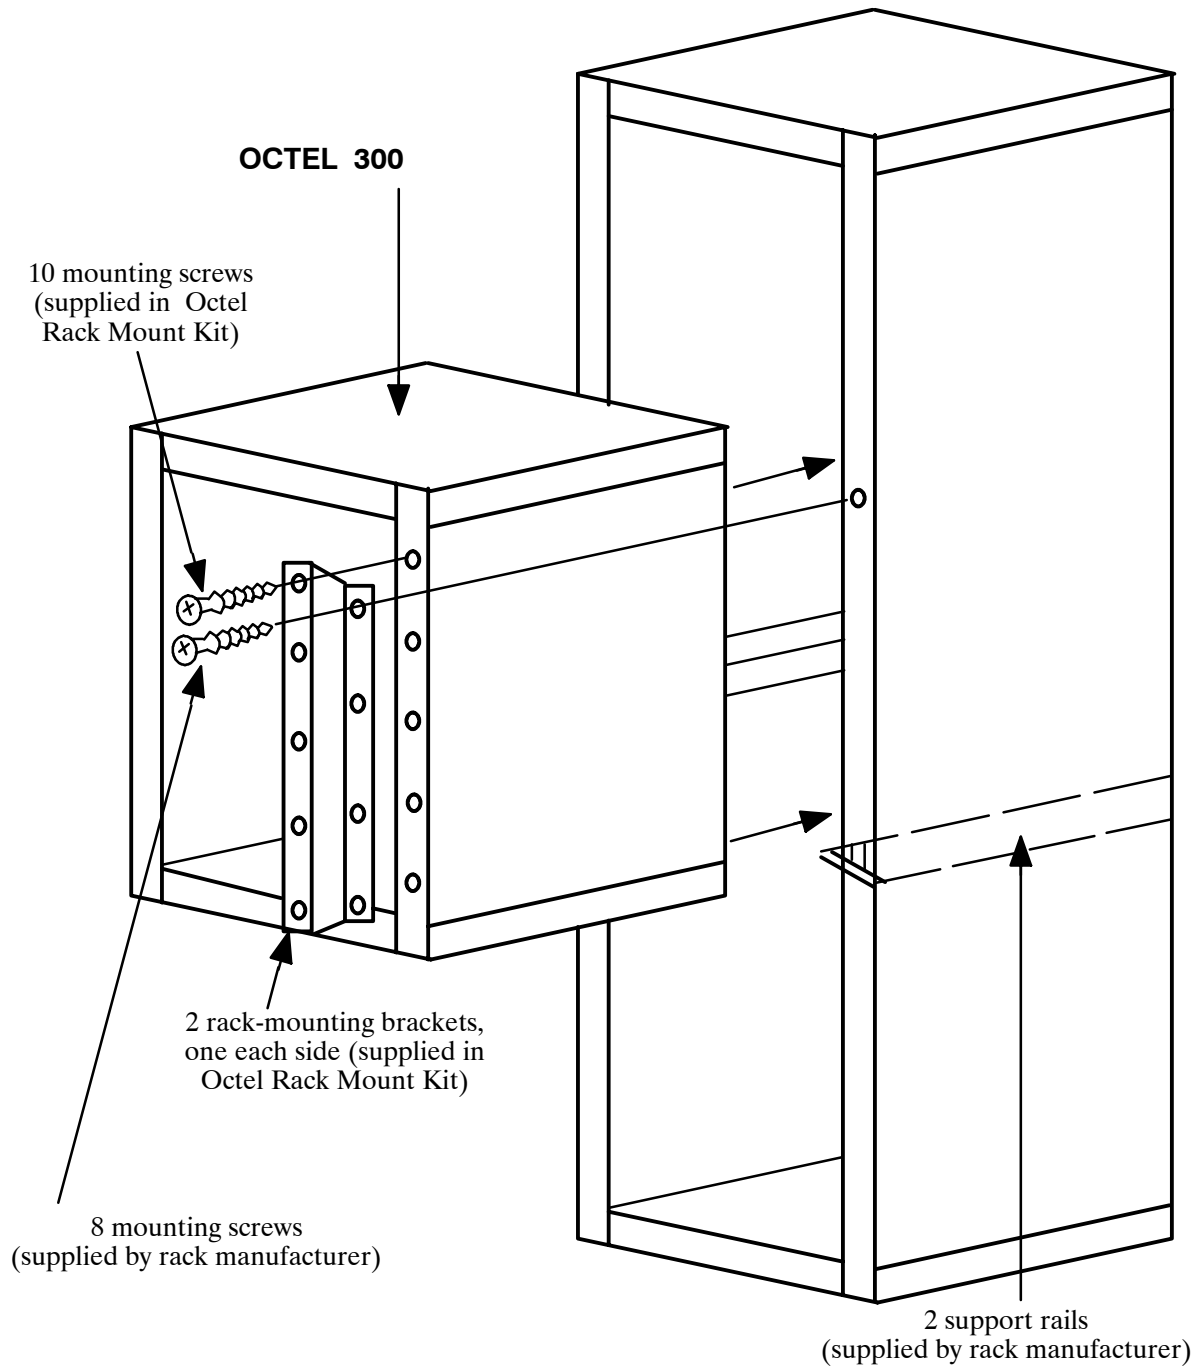

Figure 4-12 Octel 300 Cabinet Installed in 19-Inch Rack
The Octel 300 can be installed in a 19-inch rack. Figure 4-12 illustrates a rack-mount installation.
6. Install the rack-mounting brackets to the front vertical flanges of the Octel 300 cabinet with the screws provided, using a Phillips screwdriver. Refer to Figure 4-12.